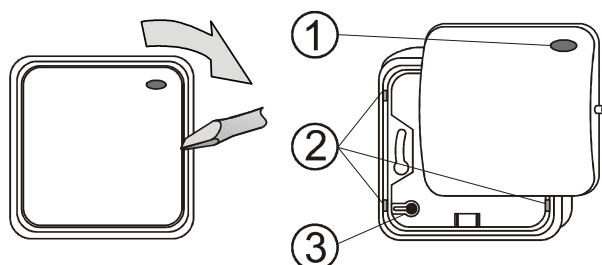

Figure: 1 – LED indicator visor, 2 – Base plastic tabs, 3 – Permanent magnet
1. Open the movable cover (by a screwdriver from the side, see figure 1).
2. Release the bottom plastic base by pressing the 4 tabs in the corners (2).
4. Assemble the PCB part into its plastic frame. If the plastic base is used then it is necessary to move the permanent magnet (3) of the tamper contact from the plastic frame which holds the PCB to the receptacle on the plastic base.
5. Connect the BUS cable to the BUS terminals (7).
- a. When the button is switched on, the yellow LED (5) flashes and indicates that the button has not been enrolled into the system.